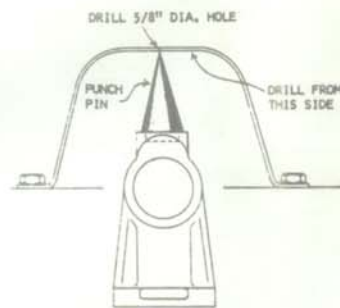

Fig. 3
5. INSTALL PUNCH PIN IN SHAFT SUPPORT TO LOCATE HOLE FOR DRILLING VALVE COVER TO ACCOMMODATE LUBRICATOR STUD. TAKE 4 OF THE VALVE COVER CAP SCREWS AND FASTEN VALVE COVER INTO POSITION. HIT COVER WITH A LIGHT HAMMER AND PUNCH WILL MARK COVER AT POINT TO BE DRILLED. (SEE FIG. 3)